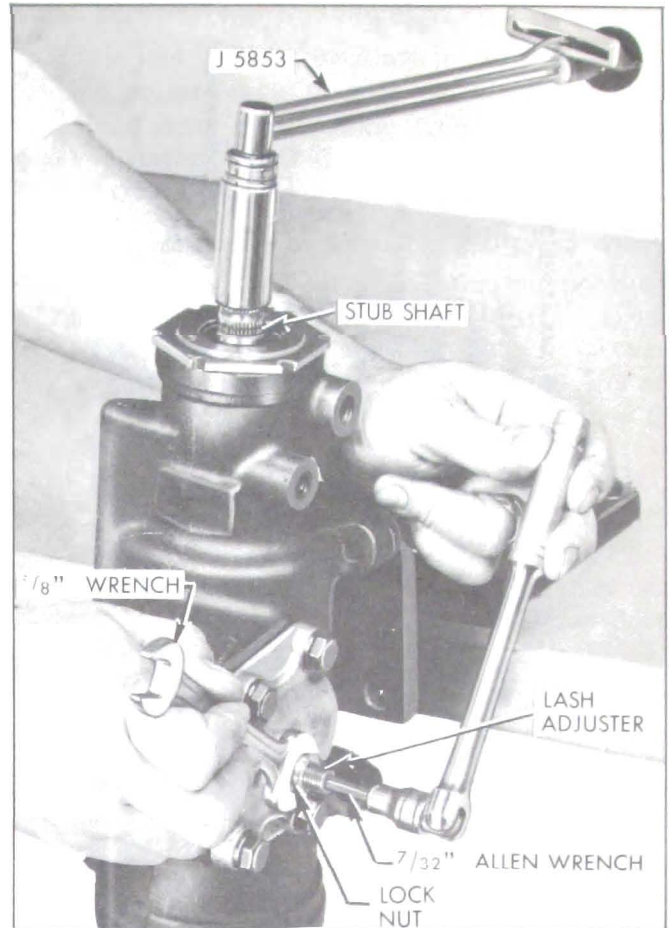

Figure 8-30—Pitman Shaft Over Center Adjustment
6. If readings are within specifications, check and adjust if necessary, pitman shaft "overcenter" adjustment. Reading on torque wrench should be 4 to 8 inch pounds higher than was obtained in step 5. See Figure 8-30. This reading is taken when rotating stub shaft through "high-point" range with lash adjuster nut tight.